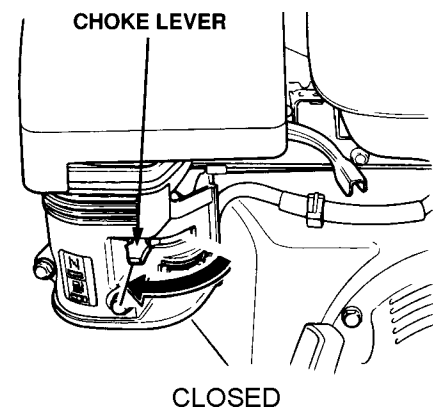

Figure 12. Engine Choke Lever (Closed)
4. Place the **choke lever** (Figure 12) in the "CLOSED" position if starting a **warm engine** or the **temperature is warm**.